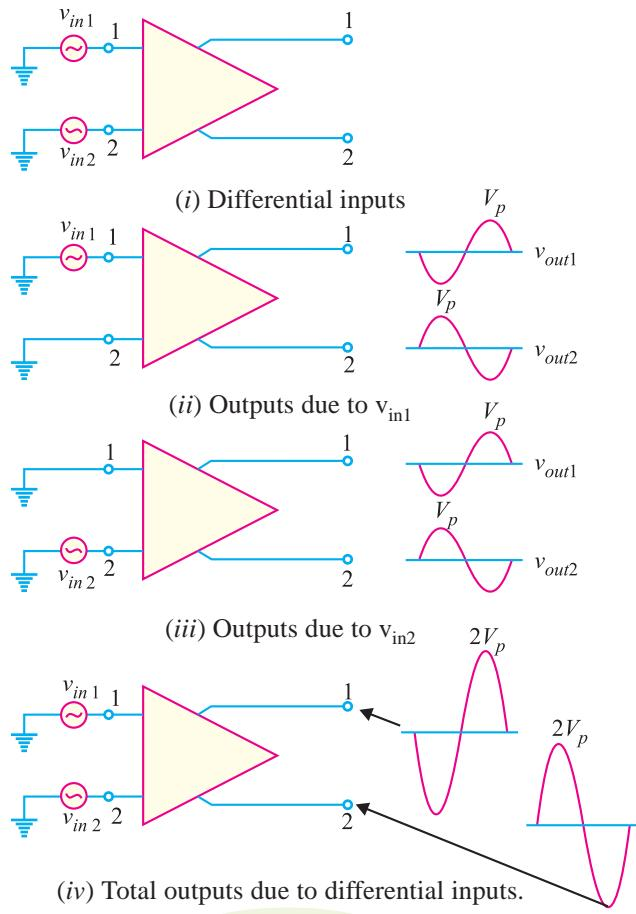

Fig. 25.10
(i) Differential input. In this mode (arrangement), two opposite-polarity (180° out of phase) signals are applied to the inputs of DA as shown in Fig. 25.10 (i).
As we shall see, each input affects the *outputs. Fig. 25.10 (ii) shows the output signals due to the signal on input 1 acting alone as a single-ended input. Fig. 25.10 (iii) shows the output signals due to the signal on **input 2 acting alone as a single-ended input. Note that in Figs. 25.10 (ii) and (iii), the signals on output 1 are of the same polarity. The same is also true for output 2. By superimposing both output 1 signals and both output 2 signals, we get the total outputs due to differential inputs [See Fig. 25.10(iv)].
- * Note that in all the Figures in Fig. 25.10, the phase of the input signal is given in the circle and the phase shift in the output signal is given at the output terminals. Thus in Fig. 25.10 (ii), the output signal at terminal 1 is 180° out of phase with the input signal. On the other hand, the output signal at terminal 2 is in phase with the input signal.
- ** Note that a DA amplifies $(v_1 - v_2)$. For Fig. 25.10 (ii), $v_{in1} - v_{in2} = v_{in1} - 0 = v_{in1}$. For Fig. 25.10 (iii), $v_{in1} - v_{in2} = 0 - v_{in2} = -v_{in2}$.